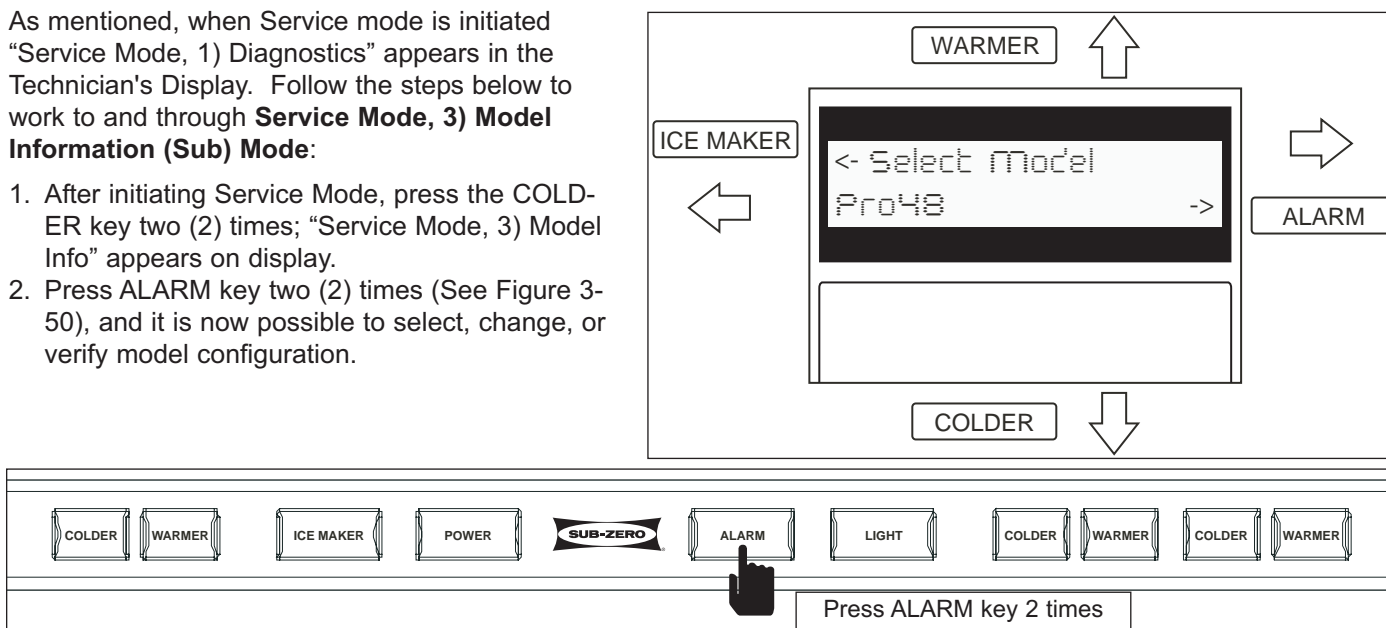

Figure 3-50. Key Strokes and Tech Display - Model Information
1. After initiating Service Mode, press the COLDER key two (2) times; “Service Mode, 3) Model Info” appears on display.
2. Press ALARM key two (2) times (See Figure 3-50), and it is now possible to select, change, or verify model configuration.